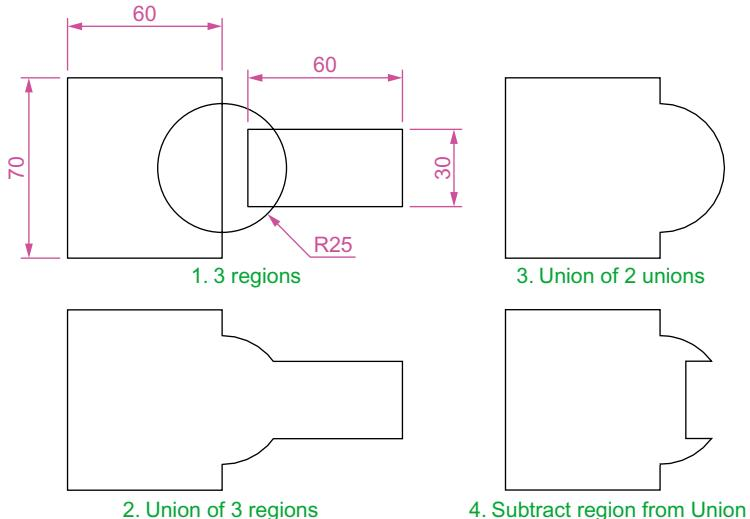

Fig. 12.10 Example – Line and circle outlines and Region
Example – Outlines & Region (Fig. 12.10)
1. Construct the left-hand drawing of Fig. 12.10 using the **Line** and **Circle** tools.
The first two examples of forming regions given in Figs 12.10 and 12.11 are used to show the results of using the **Extrude** tool.
1. Open Fig. 12.10. Erase all but the region 2.
1. Open Fig. 12.10 and erase all but the region **3**.